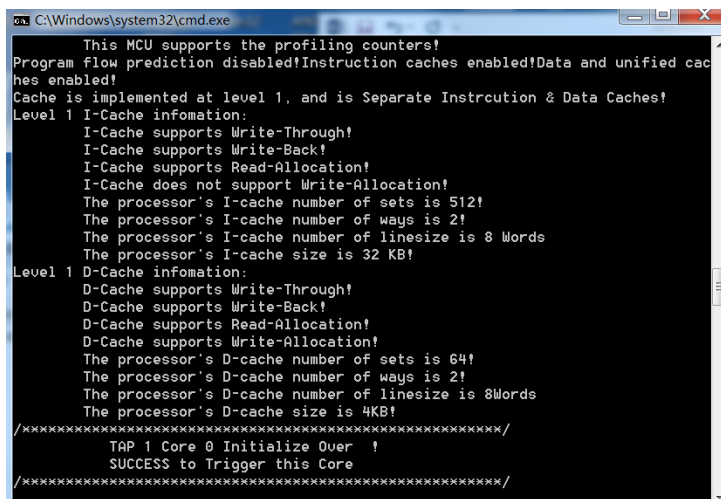

Fig 6-17 RLX Probe window
- c) Open RLX Probe in **project\realtek\_amebaD\_va0\_example\EWARM-RELEASE\probe\cm4\cm4\_RTL\_Probe**, as Fig 6-17 shows.